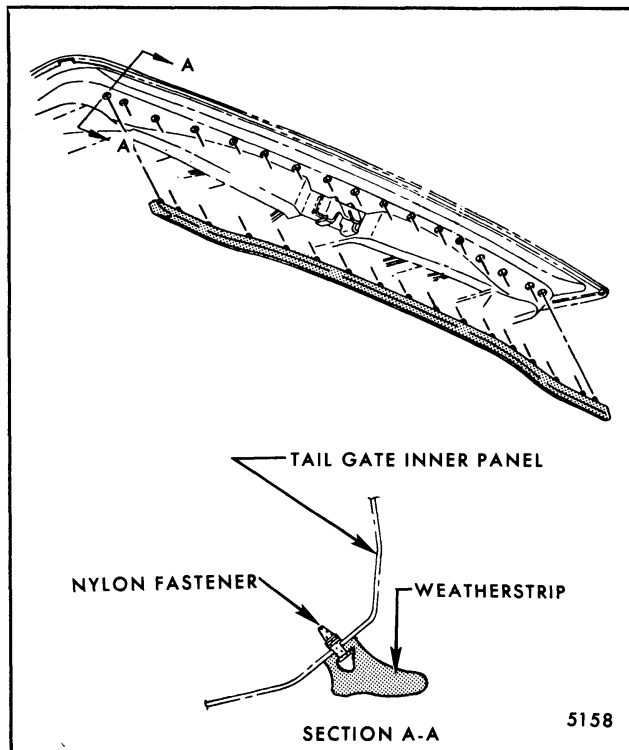

Fig. 7-55-Tail Gate Lower Weatherstrip Installation
The lower section of the back body opening is sealed by the tail gate lower weatherstrip. The seal is formed by compressing the weatherstrip to the rear end panel and to the "ramped" surface of the back body opening weatherstrip end details by the closing action of the tail gate. Serrated nylon fasteners are a component part of the weatherstrip and are used to secure it to the lower section of the tail gate (Fig. 7-55).
2. To install, align weatherstrip (sealing lip rearward - Section A-A, Fig. 7-55) fasteners to piercings in tail gate panel and press into position.